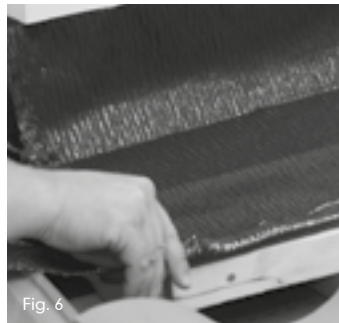

Fig. 6
- 6 Before covering the roof tiles or shingles, also fold the ridge-side fitting approximately 5cm over to create a connection to the roofing (Fig 6.).